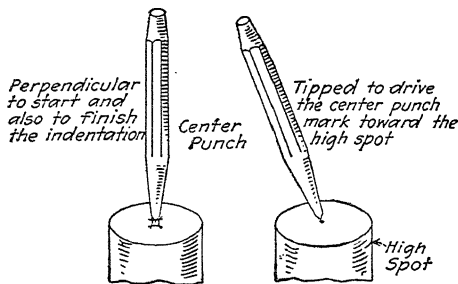

FIG. 77.
**85. Use of Center Punch.**—After the center is located, catch the piece in a vise and select a center punch (Fig. 77) with the point ground to about 90 deg. Tap lightly at first,